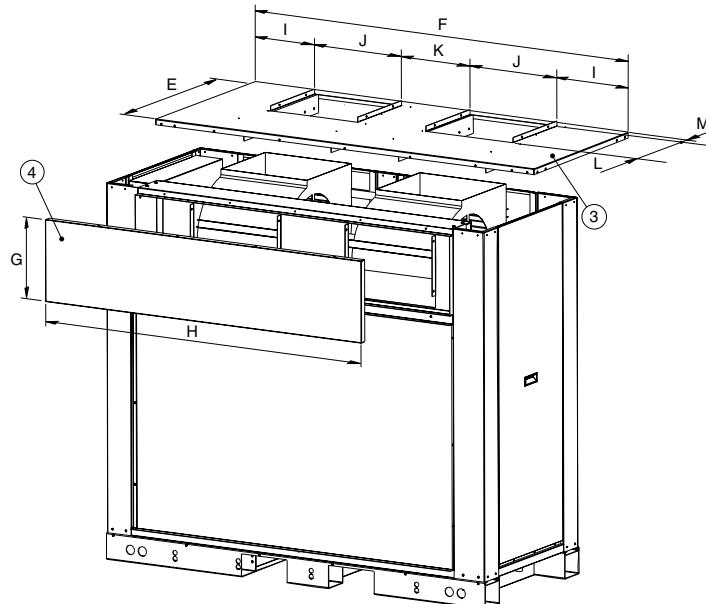

Fig. 4
- 5.- Install the top panel (3) and the plenum cover (4) (Fig. 4).